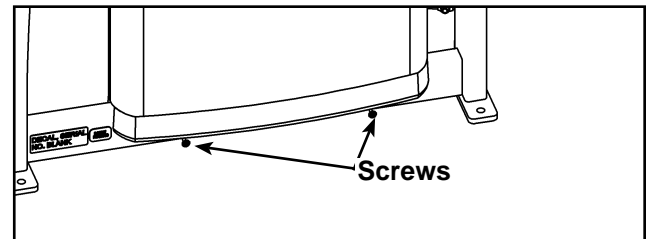

Figure 11
- A. Carefully place shroud assembly back into position on the two bottom screws. See Figure 11.